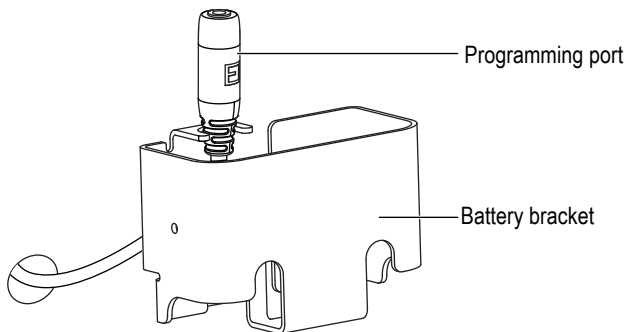

Figure 15 Installing the programming port in the battery bracket
- 1 Route the wire harness into the bottom of the battery bracket, as shown in Figure 15.